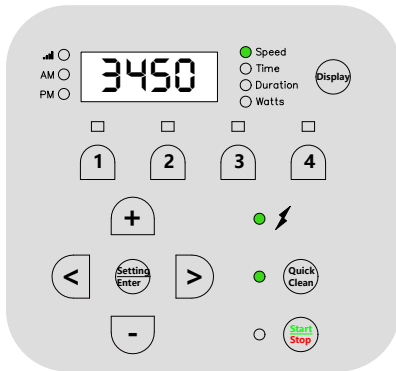

Figure 14
2. Press **Quick Clean**. The Quick Clean LED and “Speed” parameter LED will blink while editing. See **Figure 14**.